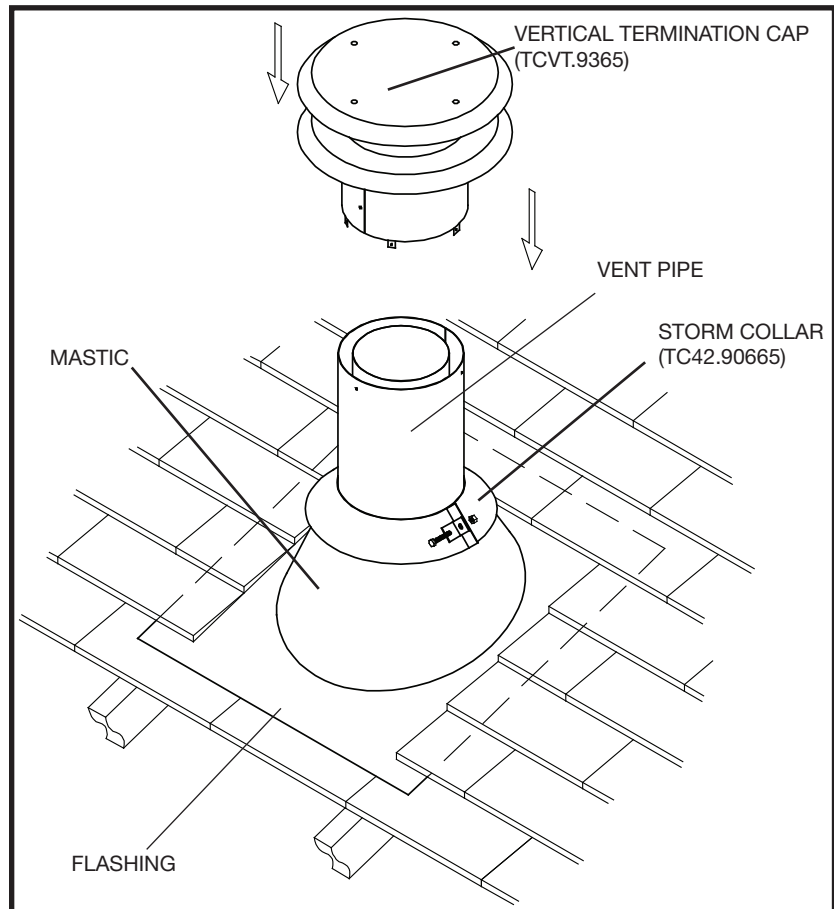

Figure 40: Roof vent terminal.
1. Place the roof flashing over the vent pipe, secure and seal it to the roof using the methods and materials appropriate for the type of roof on the building. Shingle roof example shown (Figure 40).